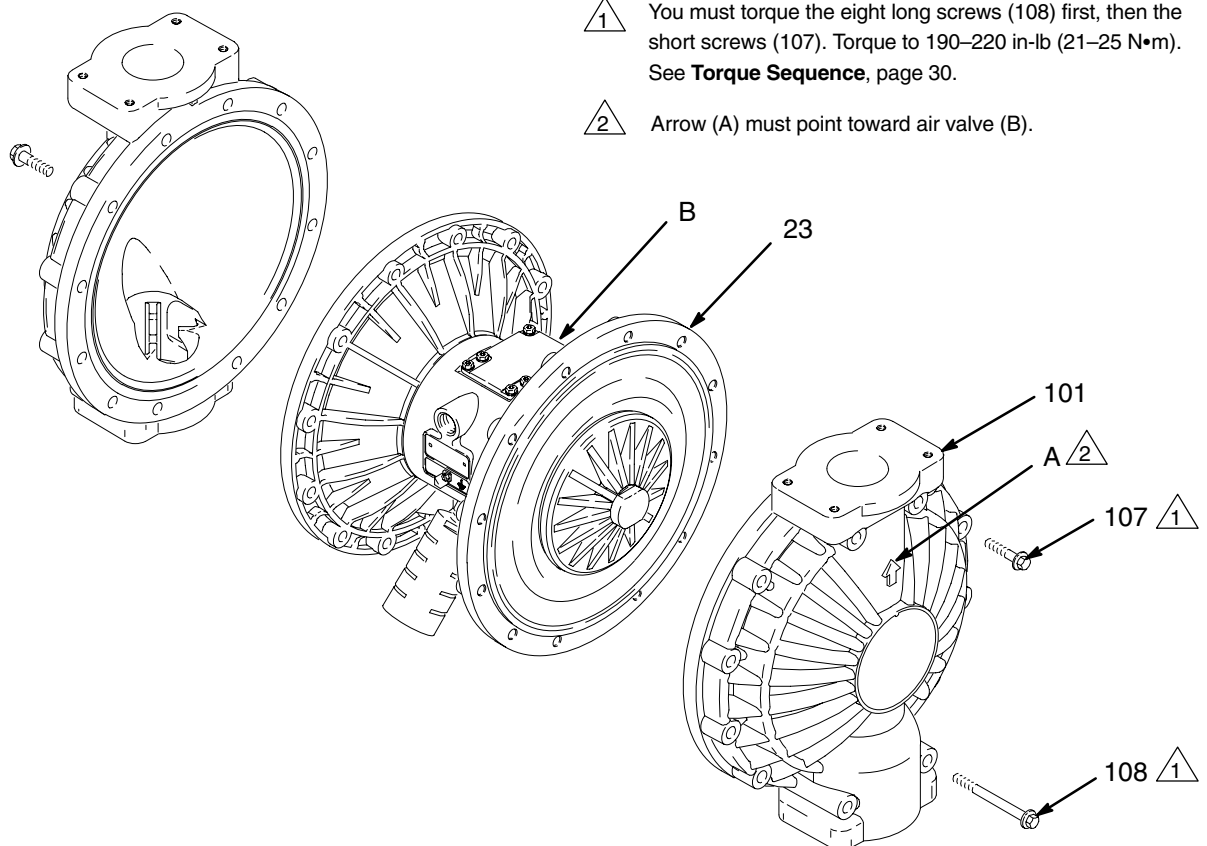

Fig. 12
3. Using 13 mm socket wrenches, remove the screws (107 and 108) holding the fluid covers (101) to the air covers (23). Pull the fluid covers (101) off the pump. See Fig. 12.
4. Apply medium-strength (blue) Loctite® or equivalent to the threads of the fluid-side plates (105). Hold one of the outer plates (105) with a wrench, and torque the other outer plate to 20 to 25 ft-lb (27 to 34 N-m) at 100 rpm maximum. Do not over-torque.
5. Align the fluid covers (101) and the center housing (1) so the arrows (A) on the covers face the same direction as the air valve (B). Secure the covers with the screws (107 and 108), handtight. Install the longer screws (108) in the top and bottom holes of the covers. See Fig. 12.
6. First, torque the longer screws (108) oppositely and evenly to 190–220 in-lb (21–25 N•m), using a 13 mm socket wrench. Then torque the shorter screws (107). See **Torque Sequence**, page 30.